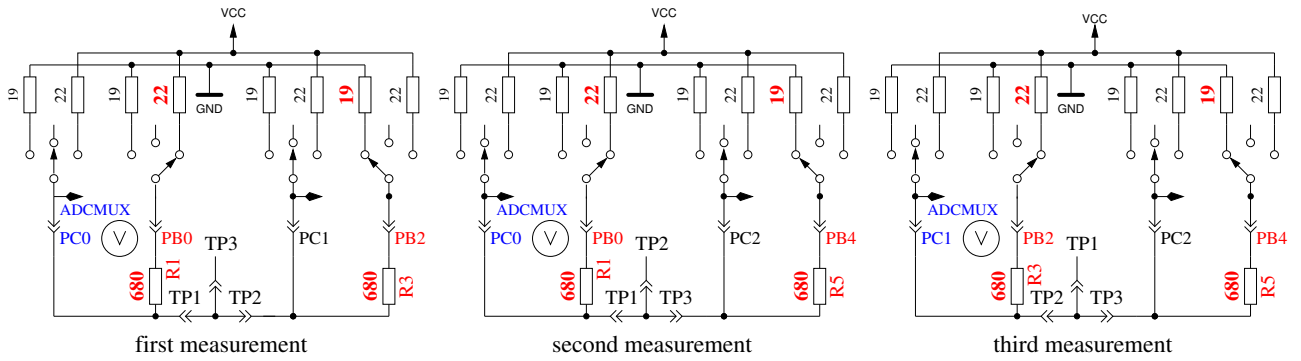

Figure 5.32: Comparison of 680Ω resistors
2. **Comparing of the 680Ω resistors.** In row 1 the cryptic text “+RL- 12 13 23” is shown. Meaning of this is as follows: The RL is the short form of Resistor Low meaning the 680Ω resistors. The 12 stand for: resistor at pin 1 is connected to VCC (+) and resistor at pin 2 is connected to GND (-). The result of this measurement is displayed in row 2 at the first place. In row 1 follows now a “13” which means, that the first connection of measurement 1 is still connected with 680Ω to VCC but that the resistor of pin 3 is connected to GND. The result is displayed in the middle place of row 2. The last measurement of this test “23.” means that now the resistor at pin 2 is connected to VCC (+) and the resistor of pin 3 is connected to GND. The result of measurement is displayed at the last place of LCR row 2. Please remember, that the resolution of the ADC is about 4.88mV! The measurement situation is also shown in figure 5.32. All these combinations with respect to the internal resistance of the pins should result to: